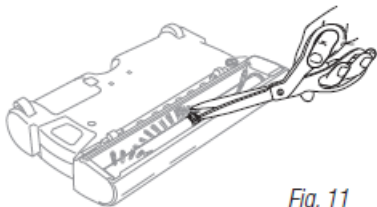

Fig. 11
3. Remove all hair, string or fibers wrapped around the brush bar. Using a pair of scissors, carefully cut along the raised guide to remove anything wound around the brush bar. Avoid damaging or cutting the bristles. (Fig. 11)